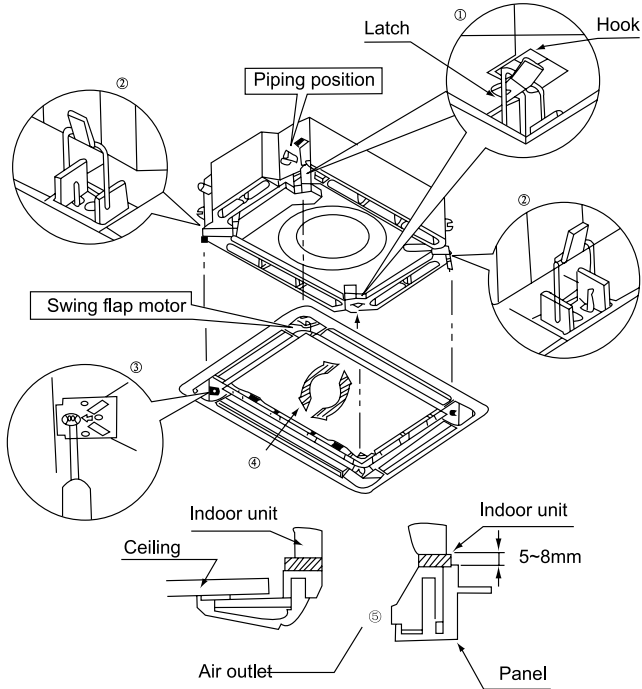

Fig.35
- (1). Place the panel at the unit, and latch the hooks beside and opposite the swing flap motor.
- (2). Latch other two hooks.
- (3). Tighten four hexagonal screws under the latches about 15mm.
- (4). Adjust the panel along the direction indicated by the arrow as shown in Fig.35.
- (5). Tighten the screws until the thickness of the sealing material between the panel and the indoor unit reduces to 5-8cm.